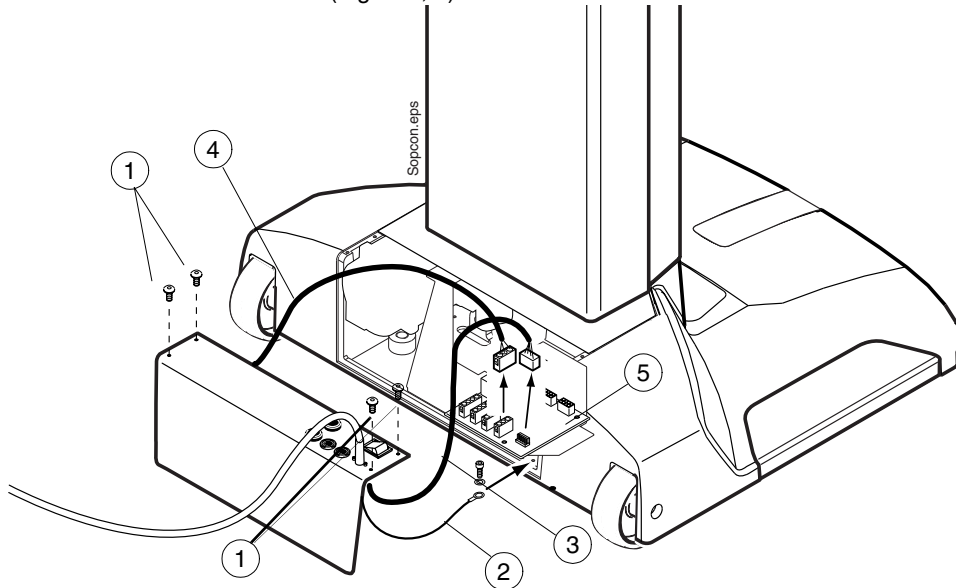

Figure H.2
- Unscrew the rear cover assembly screws (4 pcs) (Fig. H.2, 1).
- Disconnect the rear cover assembly ground cable (Fig. H.2, 2) from the base.
- Disconnect the remote control cable (Fig. H.2, 3) and the main filter output cable (Fig. H.2, 4) from the Base PCB (Fig. H.2, 5).